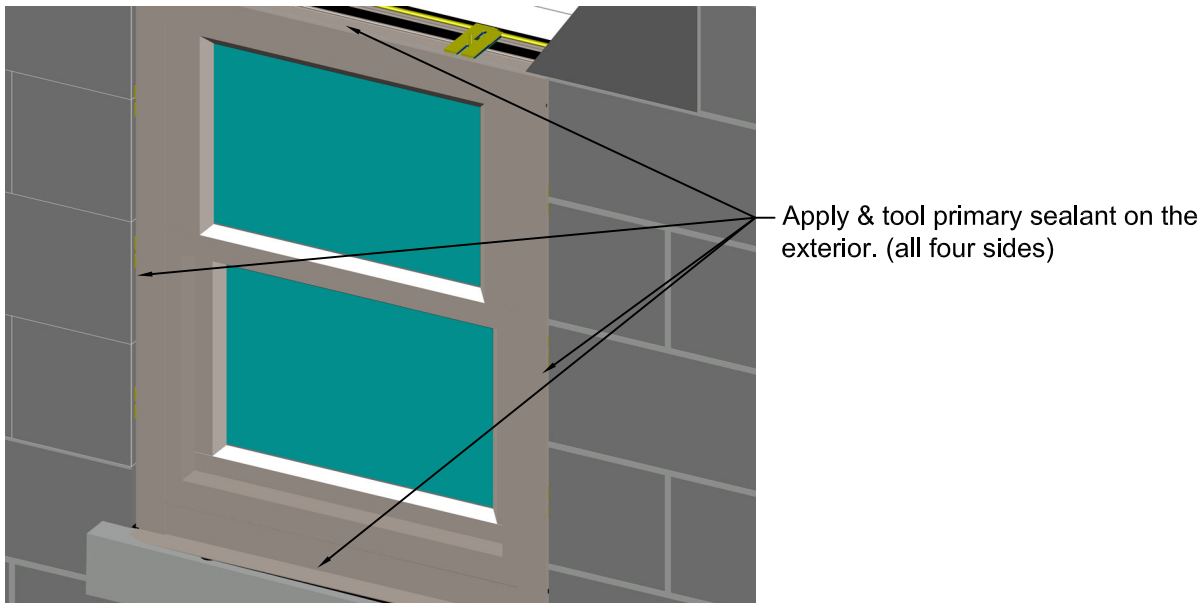

Fig. 18 - Viewed from Building Exterior (Water Resistant Barrier not shown for clarity)
15) Apply primary sealant to exterior sides & tool sealant. See Fig. 18 & 19